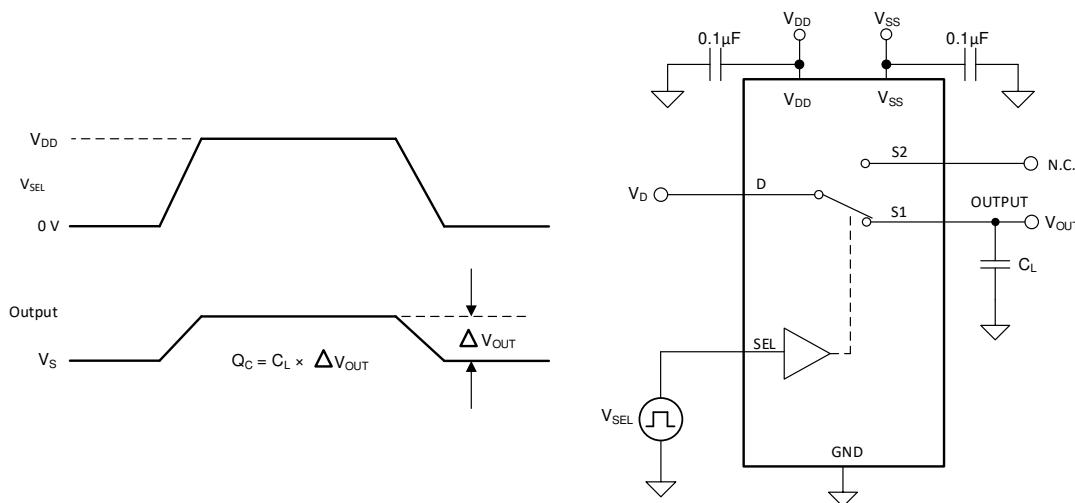

Figure 6-6. Charge-Injection Measurement Setup
The TMUX1219-Q1 has a transmission-gate topology. Any mismatch in capacitance between the NMOS and PMOS transistors results in a charge injected into the drain or source during the falling or rising edge of the gate signal. The amount of charge injected into the source or drain of the device is known as charge injection, and is denoted by the symbol Q_C . Figure 6-6 shows the setup used to measure charge injection from Drain (D) to Source (Sx).